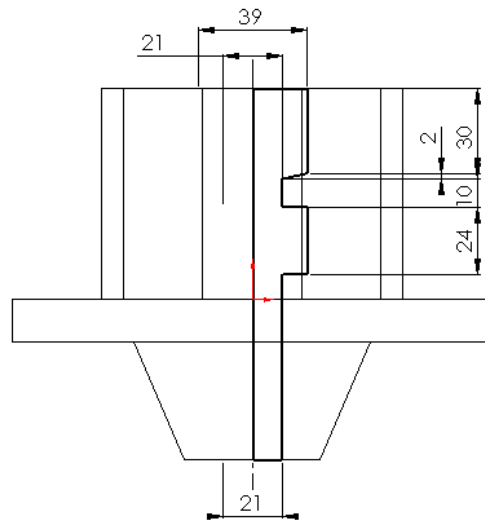

Figure 8-58 Sketch for the revolve cut feature
- c. Create the revolve cut feature, refer to Figures 8-58 and 8-59.
2. Create the sketch for the revolve cut feature and apply the required relations and dimensions to the sketch as shown in Figure 8-58.